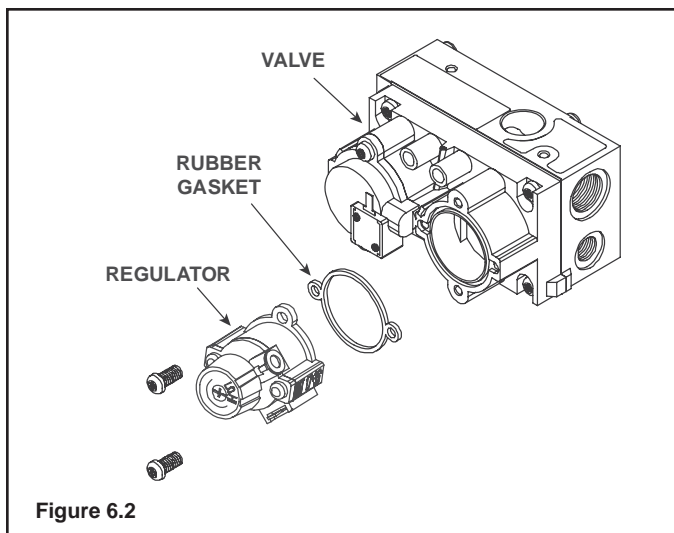

Figure 6.2
9. Using a #20 tamper-proof Torx, remove the regulator and rubber gasket on face of valve (see Figure 6.2). Discard both the regulator and gasket.
10. Install the new regulator along with the new rubber gasket included in the conversion kit (see Figure 6.2).